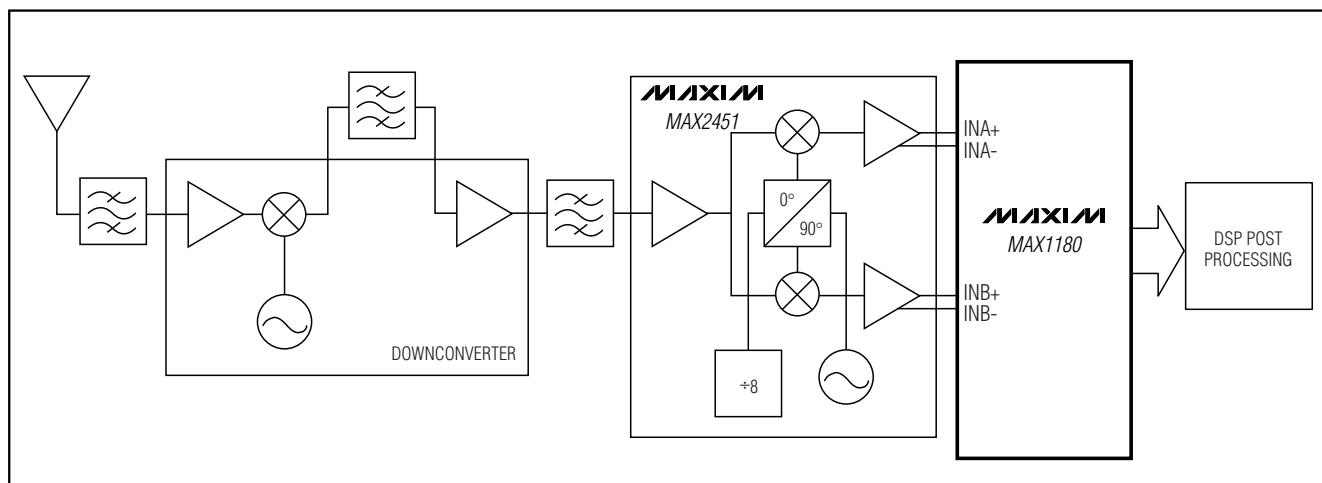

Figure 8. Typical QAM Application, Using the MAX1180
lator followed by subsequent up-conversion can generate the QAM signal. The result is an in-phase (I) and a quadrature (Q) carrier component, where the Q component is 90 degrees phase-shifted with respect to the in-phase component. At the receiver, the QAM signal is divided down into its I and Q components, essentially representing the modulation process reversed. Figure 8 displays the demodulation process performed in the analog domain, using the dual-matched, +3V, 10-bit ADCs, MAX1180 and the MAX2451 quadrature demodulators, to recover and digitize the I and Q baseband signals. Before being digitized by the MAX1180, the mixed-down signal components may be filtered by matched analog filters, such as Nyquist or Pulse-Shaping filters which remove any unwanted images from the mixing process, enhances the overall signal-to-noise (SNR) performance, and minimizes intersymbol interference.